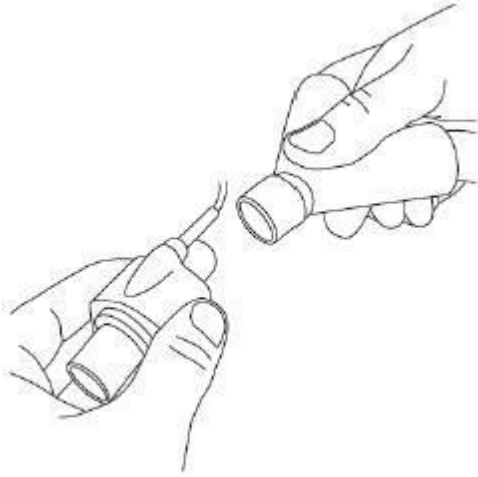

Figure 18.12 – Connection to tee-connector of patient
4. Wait until the zero calibration procedure is completed (see section 18.15.1). Then connect the adapter to the patient's tee (see Figure 18.12).